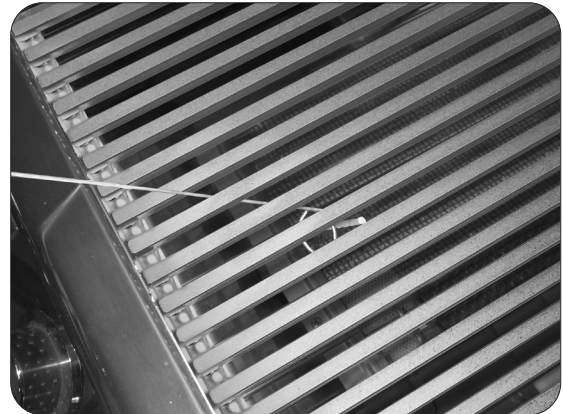

Fig. 35-2 Manual lighting
2. Insert either a burning long-barrel butane lighter, a burning long-stem match, or a burning match held by a wire extension holder through the cooking grid opening to the top of the burner (Fig. 35-2).
4. If the burner does not light within five (5) seconds of turning the control knob, **immediately depress the knob and turn the valve to OFF**. **WAIT FIVE (5) MINUTES** before repeating steps 2 through 4 of the **MANUAL LIGHTING** instructions.